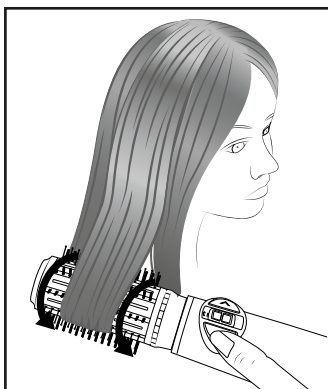

Fig. 1
- 5) Press and hold the rotation button **2** >/< **7** so that the round brush **8/9** starts to rotate. Use the round brush **8/9** at the ends of the hair, distributing the strand along the length of the round brush **8/9** (see Fig. 1). The twisting movement coils the strand. Release the rotation button **2** >/< **7** before the hairline is reached. The brush stops rotating.